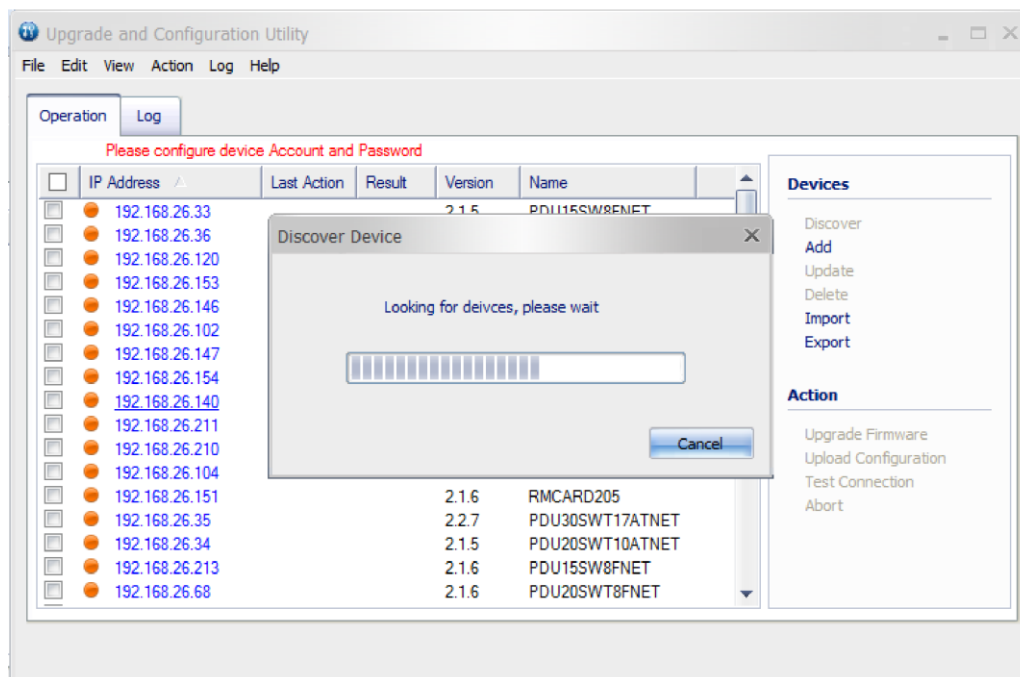

Figure 1.
3. Wait for search to finish (shown in Figure 1).